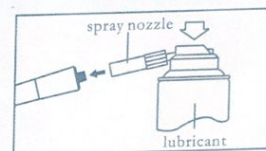

Fig.8
- Hold the handpiece and spray for approximately 2-3 seconds. Apply lubricant until it expels from the handpiece head. (Fig.8)